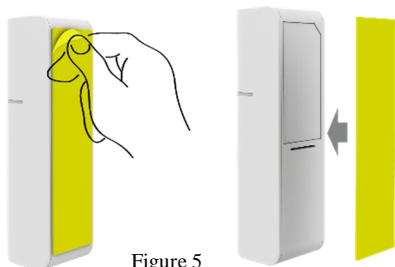

Figure 5
2. Use the provided double-sided tape on the sensor. Attach the sensor to the door. Press firmly and hold in place for a few seconds (Figure 5). Secure it with silicone if needed.